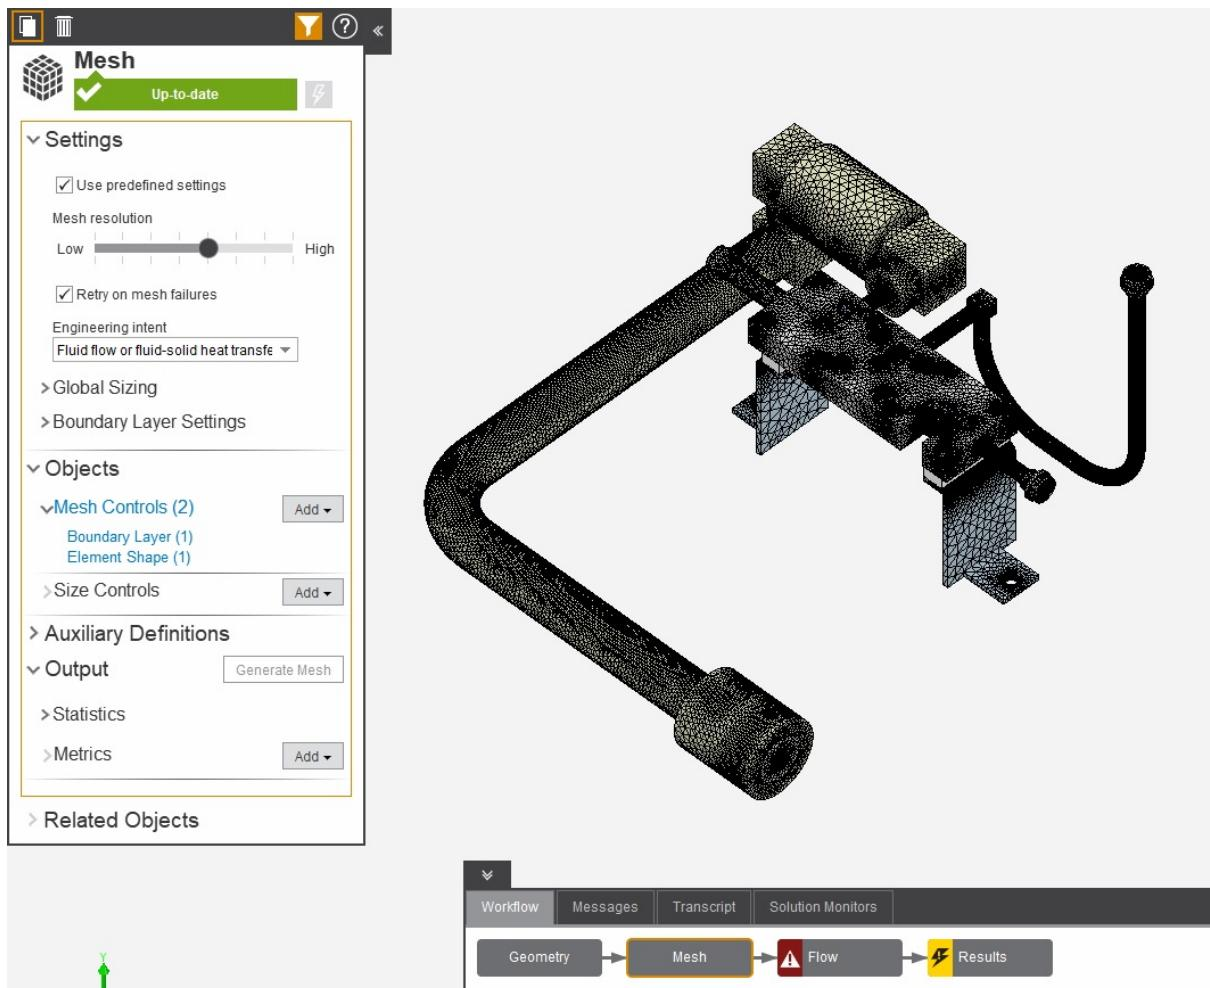

Figure 3.6:
- Once the Mesh has been generated as shown in Fig. 3.6 it is recommended to check the quality and skewness of the mesh.